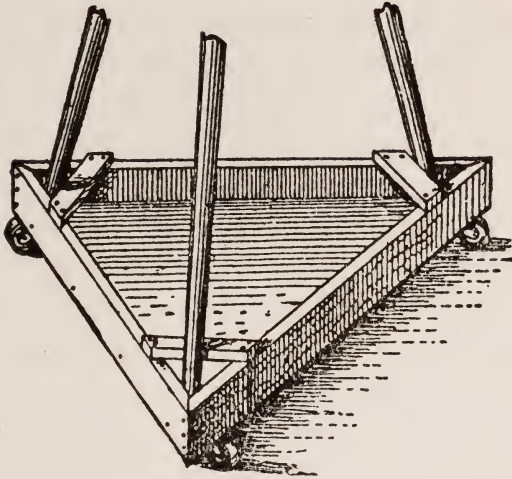

Fig. 1
**Camera Support.**— A tripod is as good as anything if it can be extended or folded so as to bring the lens about on a level with the mouth of the sitter. It is much more convenient if provided with a truck. See Fig. 1. This useful contrivance, which permits one to slide the camera backwards or forwards or sideways, without getting it out of adjustment, we recommend to all who practice home portraiture. Being flat it can be set almost anywhere out of sight when not in use. This form can be easily made and will prove a great convenience in moving the tripod without slipping. Mellen's folding tripod stay is very good. Special home